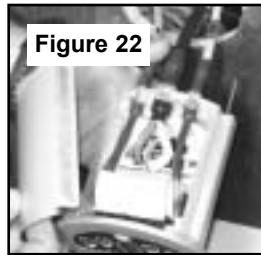

Figure 22
**STEP 2:** Remove the cover of the keypad assembly and insert the connection cable from the Sidemount Control Handle pod and the Station Cable (that leads to the Control Processor) through the console cutout and attach these connectors to the keypad assembly (see figure 22). The control head pods are marked PORT and STBD and must be installed in the proper connector. There is a latch on each connector that must “snap” onto the connector on the circuit board.